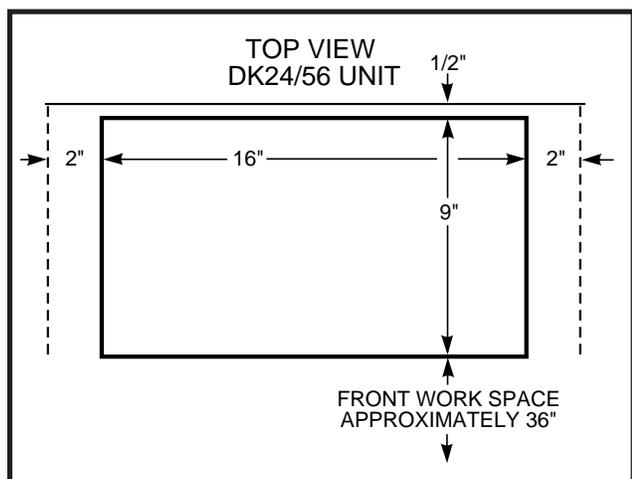

FIGURE 3-1
3.01 The key service unit (KSU) for each system may be mounted on a wall or tabletop. Figure 3-1